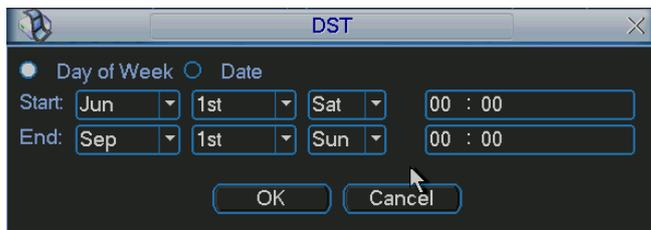
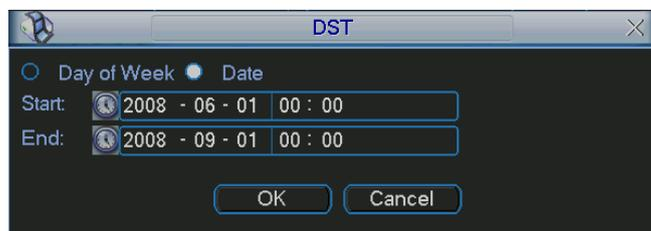

Figure 3-31
Figure 3-32
- DST: Here you can set DST time and date. Please enable DST function and then click set button. You can see an interface is shown as in Figure 3-31. Here you can set start time and end time by setting corresponding week setup. In Figure 3-31, enable date button, you can see an interface is shown as in Figure 3-32. Here you can set start time and end time by setting corresponding date setup.